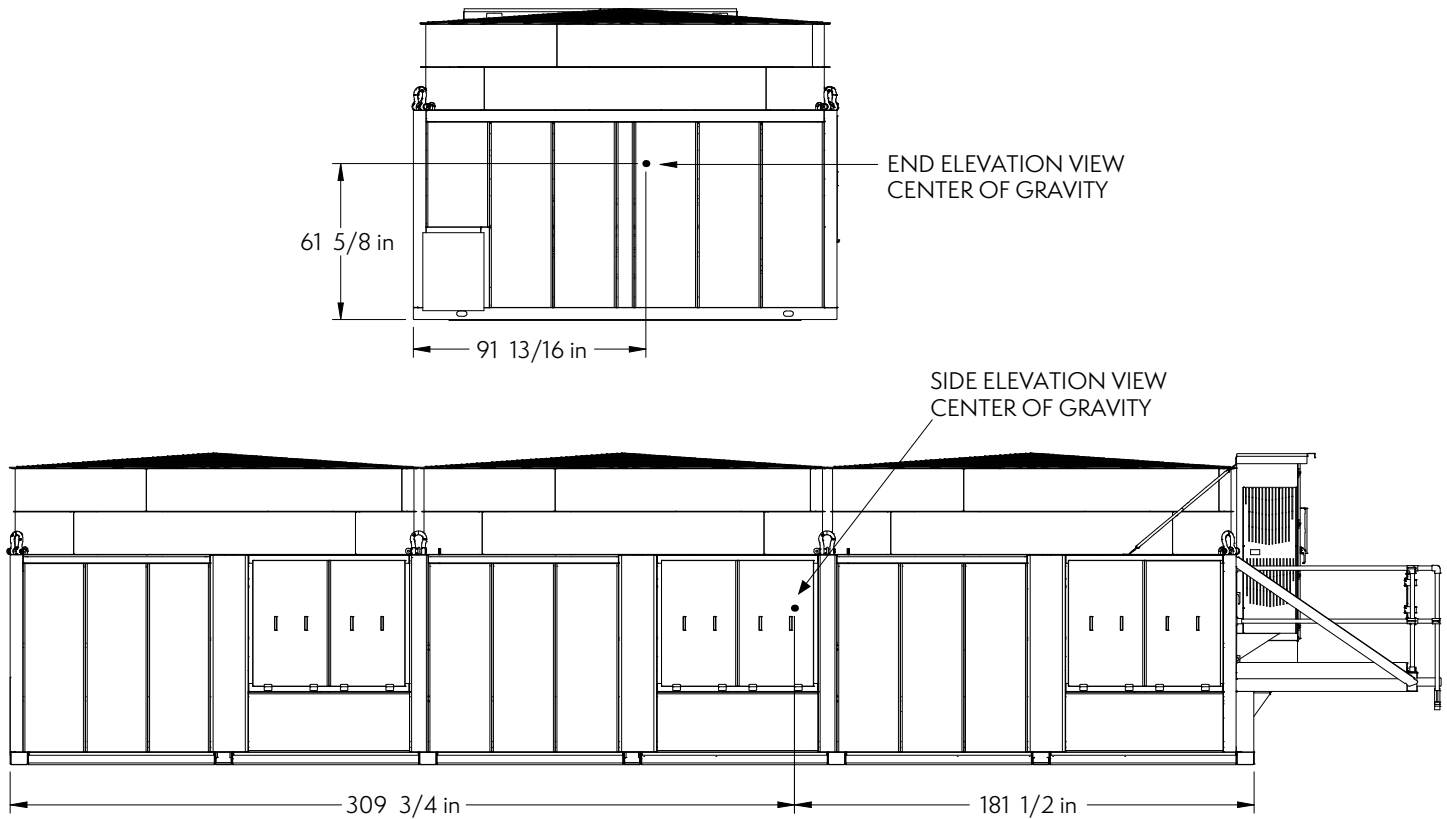

Figure 7 – Fan Section Center of Gravity with Factory-Mounted Control Panel and External Service Platform
3. The fan section for APEX units can include a factory-mounted control panel and external service platform. Refer to Figure 7 for center of gravity point for eccentric weight distribution.